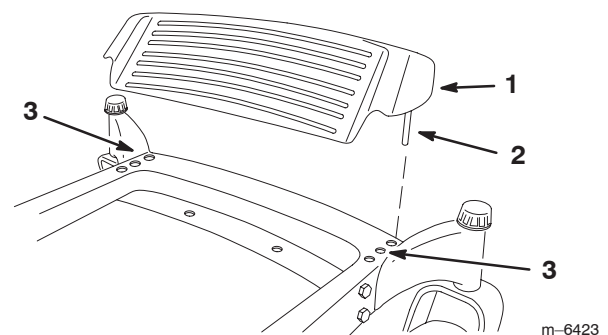

Figure 2
1. Lift up the footrest and temporarily remove it from the machine (Fig. 2).
3. Install the footrest into the footrest frame while placing the rods in the same hole positions (Fig. 2).